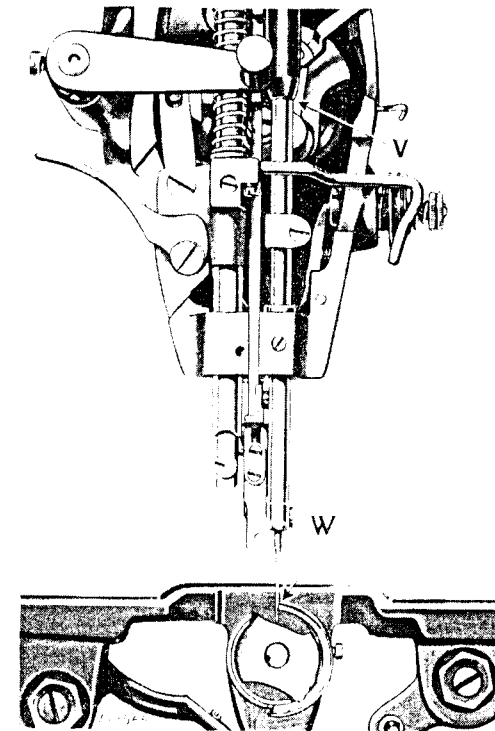
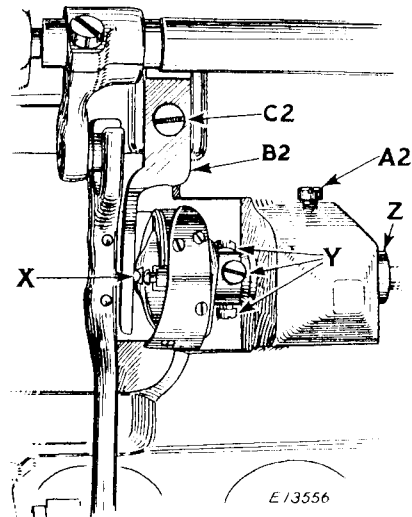
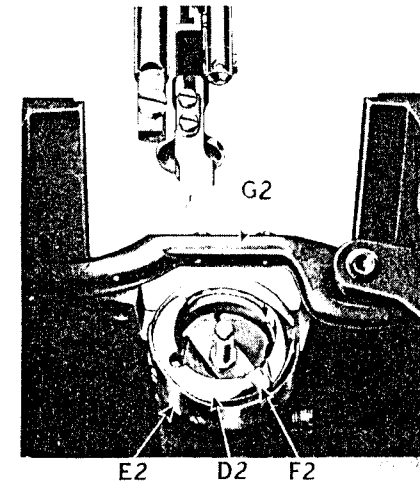

Fig.22 Needle and Sewing Hook Correctly Timed
Fig. 23 View of Underside of Machine Showing Bobbin Case Holder Position Bracket (B2) and Adjustments on Machine
Fig. 24 Showing Correct Position of Thread Guard (E2) and Bobbin Case Holder (D2) for Removal of Sewing Hook
To determine that the hook is correctly timed, place a new needle in the machine, then turn the balance wheel over toward you until the LOWER TIMING MARK on the needle bar is centered with the lower end of the needle bar bushing as shown at (V, Fig.22) when the needle bar is on its upward stroke. With the needle bar in this position, the point of the hook should be at the center of the needle as shown at (W, Fig.22).
In case the hook is not correctly timed, loosen the three screws (Y, Fig. 23) in the hub of the hook. These three screws can be reached from the top of the machine bed through the opening
left by the removal of the throat plate, although, for purposes of illustration, the screws are shown only in the view of the underside of the machine in Fig. 23. Rotating the balance wheel of the machine will bring these screws, one at a time, directly under the throat plate opening where they can be easily reached with a screwdriver from the top of the machine bed.
After loosening the three screws (Y, Fig. 23) turn the hook on its shaft to bring the point of the hook at the center of the needle as shown at (W, Fig. 22), then tighten the three screws (Y, Fig. 23).
The hook should be set as close as possible to the needle without touching. If the hook is too close to the needle or too far away from it, loosen the three screws (Y, Fig. 23) and the bushing screw (A2, Fig. 23) and drive the bushing (Z, Fig. 23) in or out, as may be required, until the hook just clears the needle, being very careful not to damage the bushing, then securely tighten the bushing screw (A2) and the three screws (Y).
Remove the needle, slide plate and bobbin case. Take out the screw (C2, Fig. 23) and remove the bobbin case holder position
bracket (B2, Fig. 23). Loosen the three set screws (Y, Fig. 23) in the hub of the hook, then turn the balance wheel over toward you until the feed bar (G2, Fig. 24) is raised to its highest position. Turn the sewing hook until the thread guard (E2, Fig. 24) is at the bottom, as shown in Fig. 24, and turn the bobbin case holder (D2, Fig. 24) until it is in the position shown in Fig. 24. The sewing hook can then be removed from the hook shaft.
When placing a new sewing hook on the shaft, have the thread guard (E2) of the hook at the bottom and the bobbin case holder (D2) turned to the position shown in Fig. 24, so that the hook will clear the feed bar (G2).
When the hook is in position on the shaft, turn the bobbin case holder (D2, Fig. 24) until the notch (F2, Fig. 24) is at the top, then replace the bobbin case holder position bracket (B2, Fig. 23) being careful to see that the position stud (X, Fig. 23) enters the notch at the top of the bobbin case holder, as shown in Fig. 23,
then securely fasten the position bracket by means of the screw (C2, Fig. 23). Replace the needle and time the sewing hook as instructed on pages 19 and 20. When tightening the three screws (Y, Fig. 23) in the hub of the hook, draw the hook shaft toward the needle bar end of the machine and press the hook toward the balance wheel to take up the end play in the shaft. Then replace the bobbin case and slide plate.